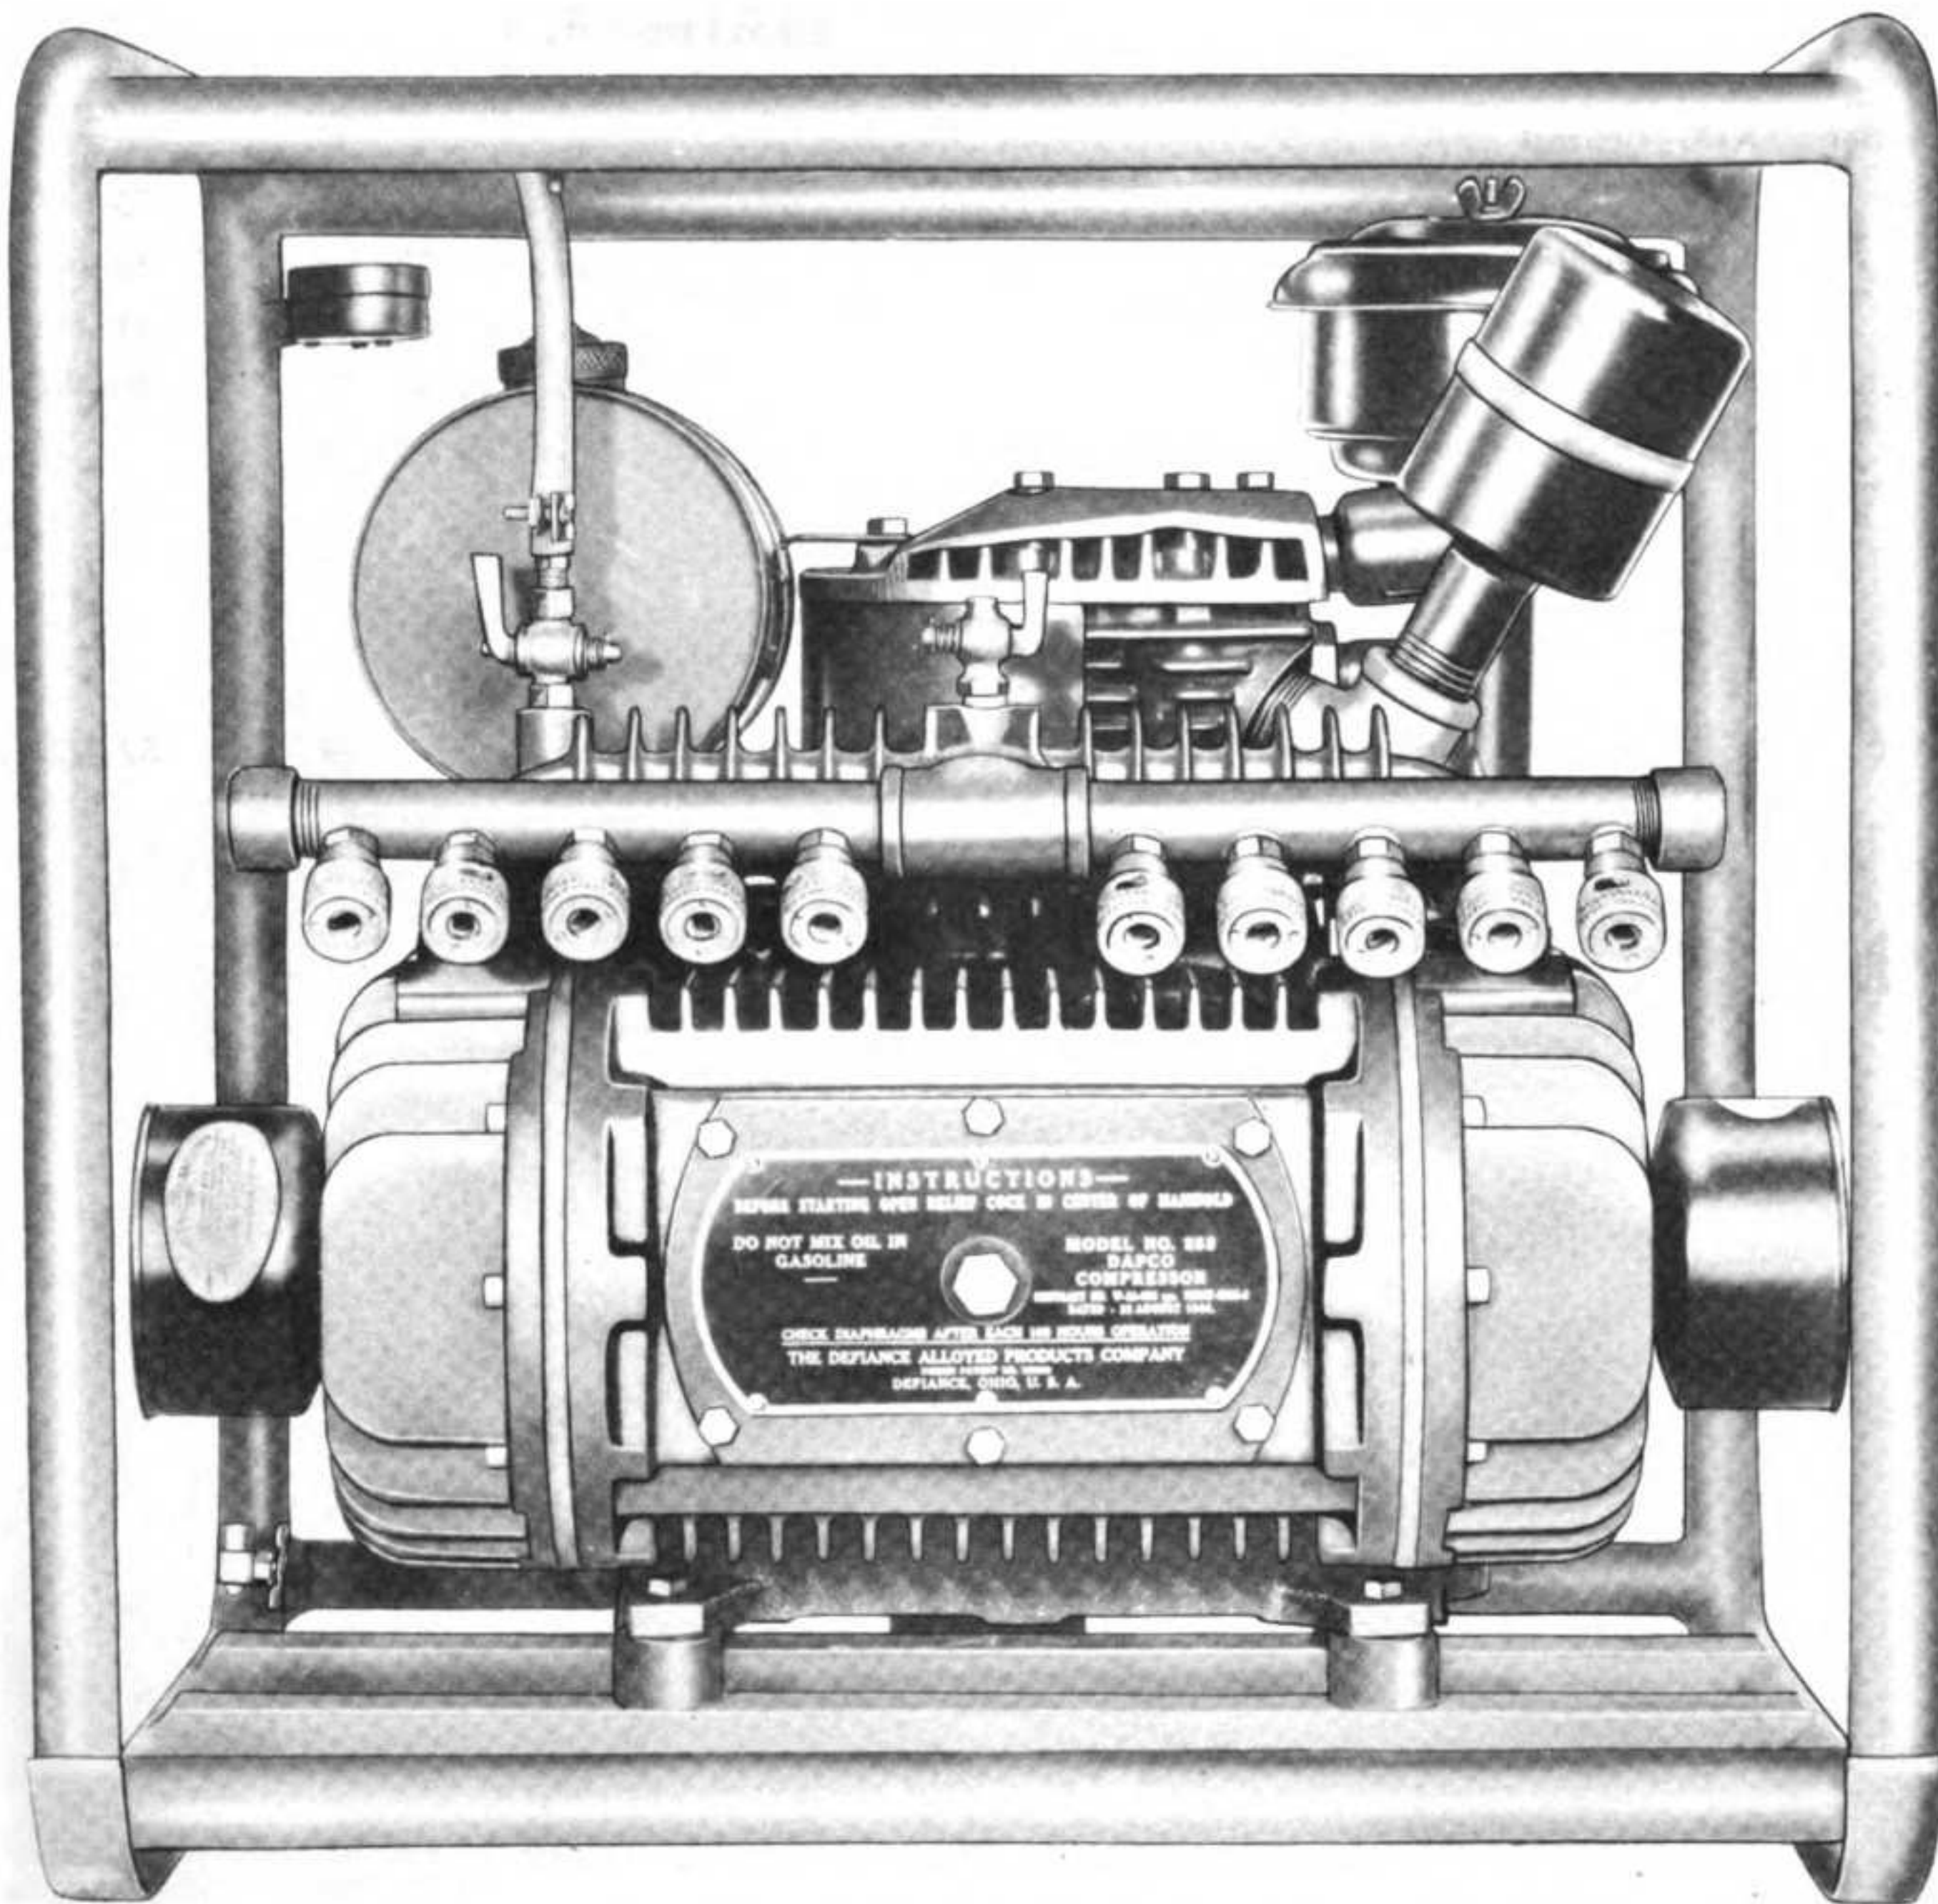

Figure 1—Delousing Outfit
a. Type. The Outfit, Delousing, Gasoline-Engine Driven, is a complete portable, gasoline-engine driven compressor designed to provide an ample supply of compressed air for operation of ten dusting guns. Each outfit consists of a gasoline engine with the compressor directly attached. (See figure 1.)